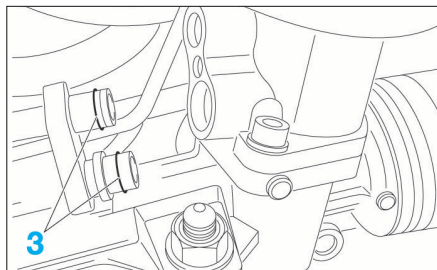

FIG. 21
- Poser des joints (3) neufs (Fig.21).